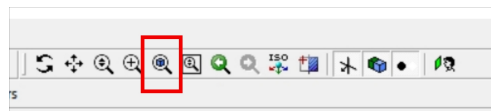
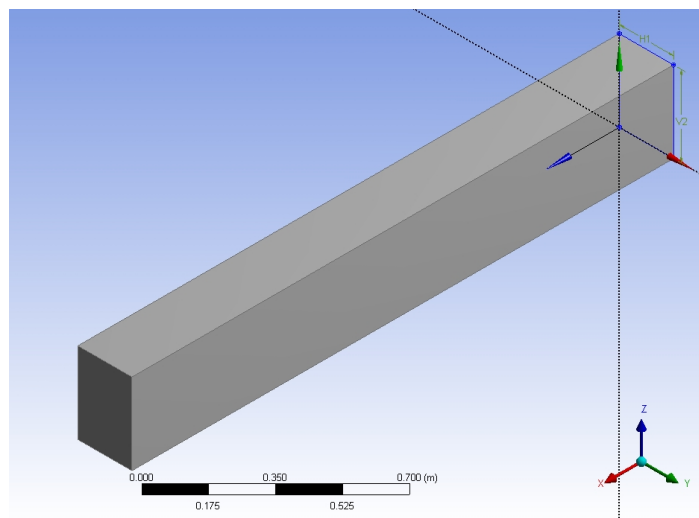

Figure 10: The Zoom to fit button shown inside a red box
Figure 12: Isometric view of the geometry
14. Click on Sketching. Now adjust the location of the dimension labels relative to the body by using Dimensions → Move. After clicking on Move, you can click on the dimension label (H2 or V1) and drag it closer to the rectangle. You can also use the Zoom to fit button (as shown in Figure 10) to fit the rectangle to the screen.
15. Click on **ISO** in the top ribbon of buttons (seen to the right of **Zoom to fit** in Figure 10). The screen should look like Figure 12.
To accomplish this naming, it will be necessary to rotate the geometry to access faces that are not visible in Figure 12.